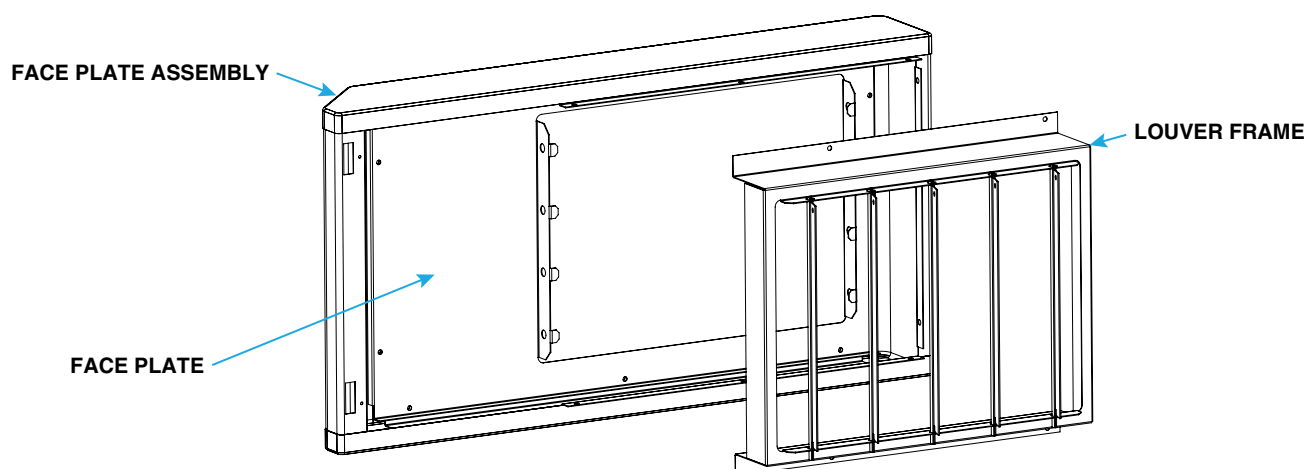

Figure 1. Typical Face Plate Assembly and Louver Frame
Install the vertical louver kit as follows (see Figure 1):
3. Remove door on right side of unit to access screws that secure face plate assembly (see Figure 1) to front of unit. Remove screws and remove face plate assembly.